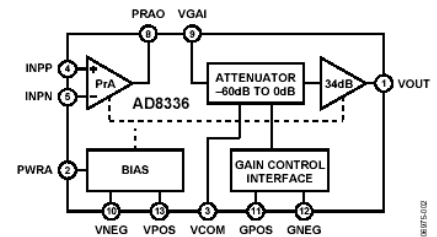

Figure 2. AD8336 Functional Block Diagram
A functional block diagram of the AD8336 is shown in Figure 2.
- Instead of focusing on notch depth, the designer should focus on center frequency and Q. The Q for a given notch filter is the -3 -dB point, *not* the notch depth or a point 3 dB above the notch depth, as shown in Figure 2.